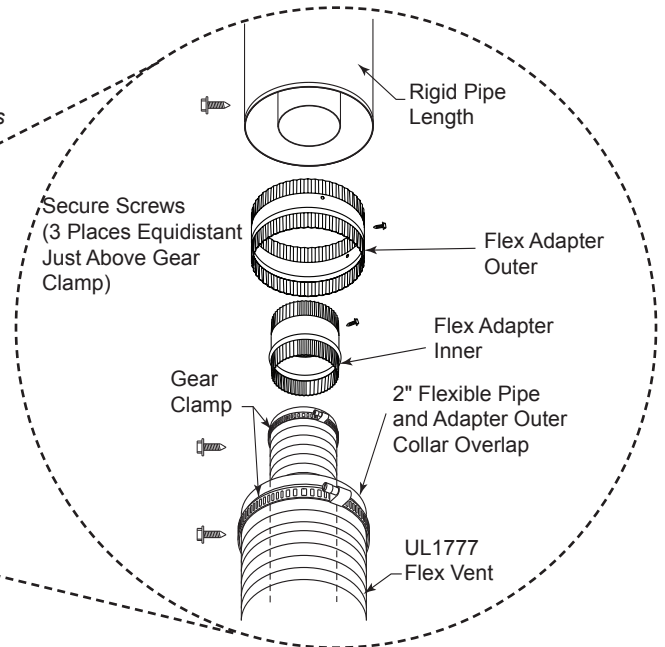

Figure 13 Typical Vertical Termination Connection
1. Attach the inner flex adapter to the inner pipe of the rigid pipe length using three (3) self tapping #10 screws.
2. Attach the outer flex adapter to the outer pipe of the rigid pipe length using three (3) self tapping #10 screws.
3. Attach the 4" and 6-5/8" flex pipe to the flex pipe adapter in the same manner as the starting adapter. See Figure 13.